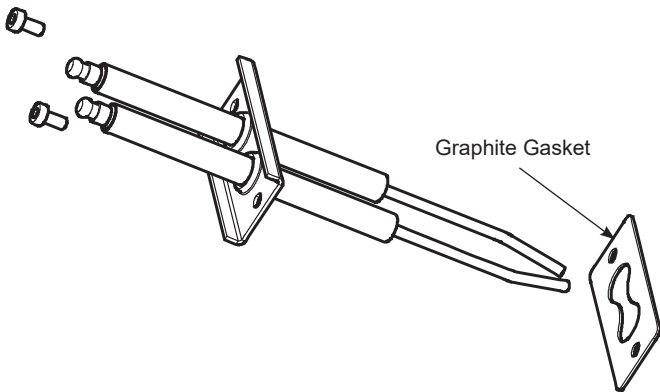

Figure 28: Igniter Electrode Assembly
- d. Install igniter as shown in Figure 28.